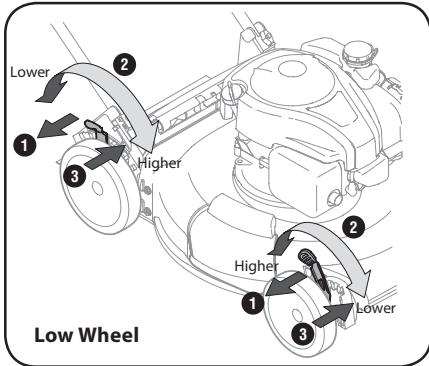
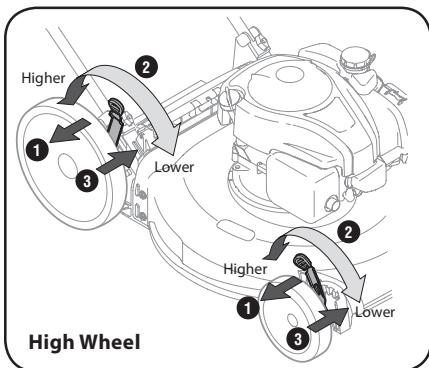

Figure 2-11
Figure 2-12
- Move lever to desired position for a change in cutting height. See Figure 2-11 and Figure 2-12.
See Figure 2-11 and Figure 2-12.